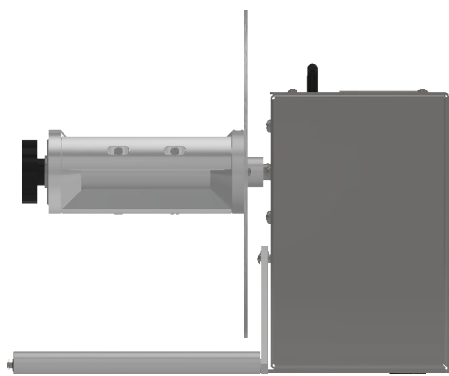

FIG. 8
- CHUCK (FIG.8): Mount the inner Flange onto the Quick-Chuck with two screws provided.